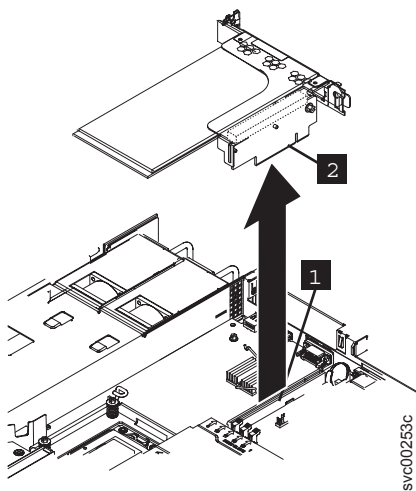

Figure 188. Removing the 10 Gbps Ethernet riser-card assembly
5. After removing the back-rail retaining screws for the Ethernet riser-card assembly, grasp the Ethernet riser-card assembly at either end and pull up out of the PCI slot 2 riser-card connector, as shown in Figure 188. Once the Ethernet riser-card assembly clears the connector, gently twist the Ethernet riser-card assembly to separate the Ethernet riser-card assembly from the node.